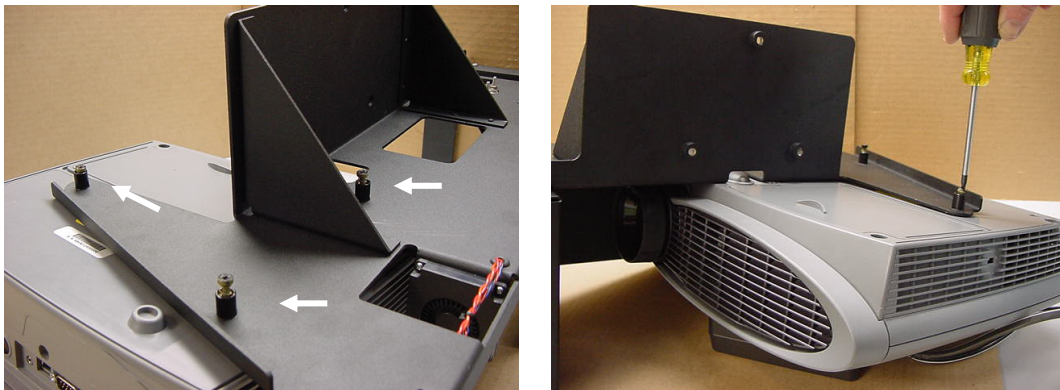

Figure 5. Secure projector to EMA.
3. Connect the projector to the DTS EMA assembly. Secure using the three captive Phillips screws (See arrows, Figure 5).